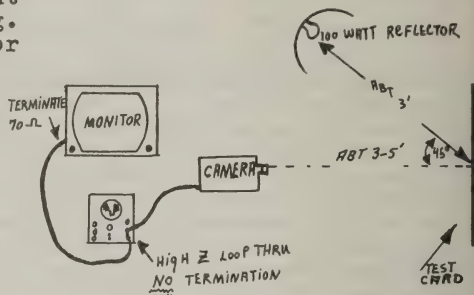

Fig. 2 BLOCK DIAGRAM showing arrangement of camera, lighting, slide and monitor.
2. Position the camera, light and test card as shown in fig. 2. Connect camera to monitor